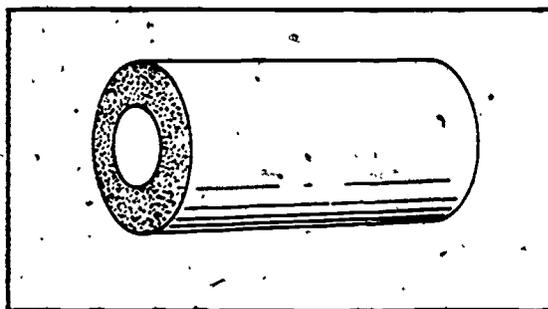

Figure 4-5. Flex rubber insulation.
e. Flex rubber. Flex rubber insulation, shown in figure 4-5, is a tough, flexible rubber material constructed of millions of uniform closed cells. It has good insulating qualities, good cementing qualities, excellent weather aging qualities, and is ideal for the prevention of sweating of cold water lines. In addition, it is water and flame resistant. Flex rubber insulation is recommended for covering tubing used in refrigeration and cold water lines in homes as well as in industrial plants and commercial buildings. This rubber insulating material comes in random lengths with a wall thickness size of 3/8 to 3/4 inch. It is made to fit pipe sizes up to 4 inches.